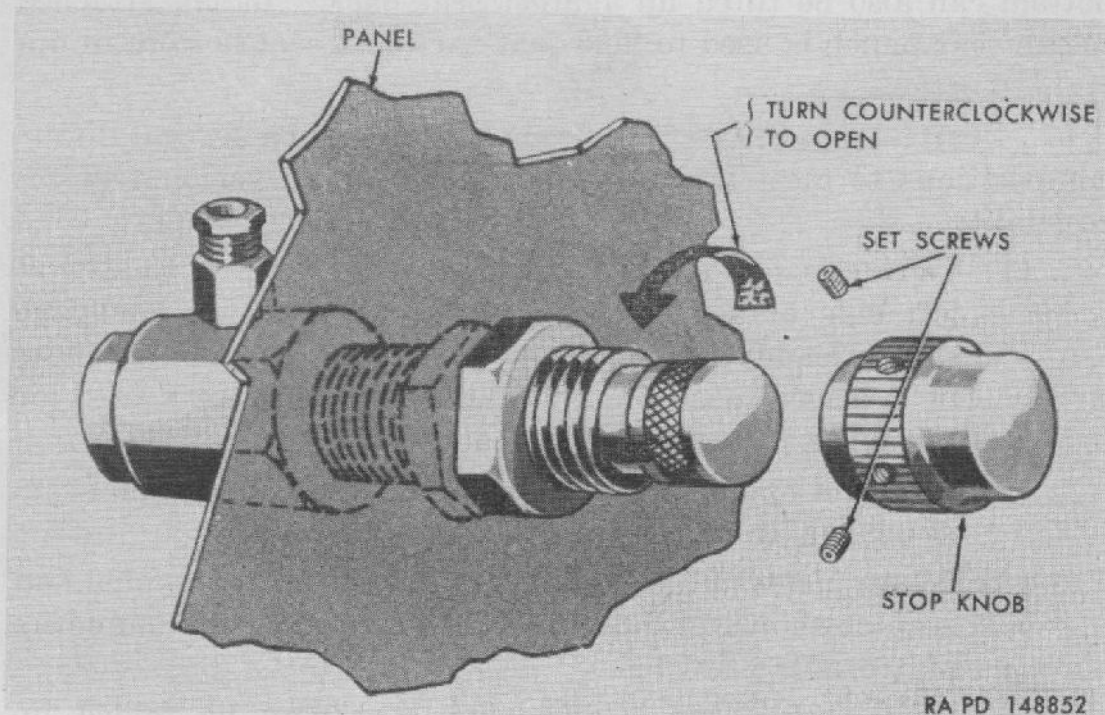

Figure 170. Windshield wiper control adjustment.
b. CONTROL VALVE ADJUSTMENT. Both windshield glasses must be kept thoroughly wetted during adjustment. With system pressure of 35 psi or more, open control valve completely. If motors operate between 60 and 70 complete cycles (120 to 140 strokes) per minute, valve is correctly adjusted. (Count as one stroke each time blade reaches end of travel.) If motor speed is not in this range, adjust valve. Loosen two set screws and pull stop knob off regulator knob (fig. 170). Turn regulator knob to operate motors at 120 to 140 strokes per minute (preferably 120 strokes) on thoroughly wetted windshield. Without disturbing adjustment, install stop knob on regulator knob and, while holding stop knob tight against valve body, tighten two set screws firmly. If adjustment is properly made, stop knob will "bottom" on valve body with motors operating at maximum desired speed.
- (1) *Removal.* Pull wiper arm away from windshield with one hand. With other hand, swing lower end of blade outward and upward through a 180 degree arc. Pull blade straight away from motor shaft to remove.
- (2) *Installation.* With hook on blade pointing to motor shaft, and with metal part of blade in contact with forward side of arm, engage hook by pushing blade toward shaft. Hold lower end of arm away from windshield with one hand; with other hand, swing upper end of blade outward and downward into position.